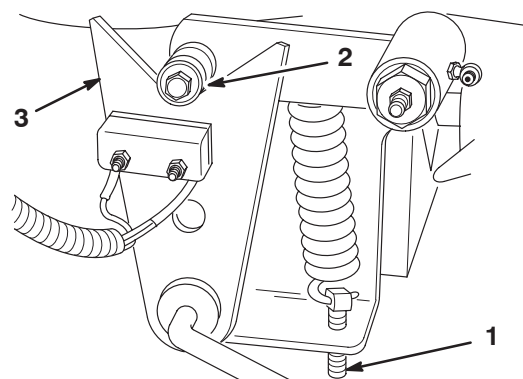

Figure 24
3. Loosen the locknut on the spring adjusting pin until the bearing moves freely from the cam on the lever (Fig. 24), allowing the pump shaft freedom to rotate during start-up.